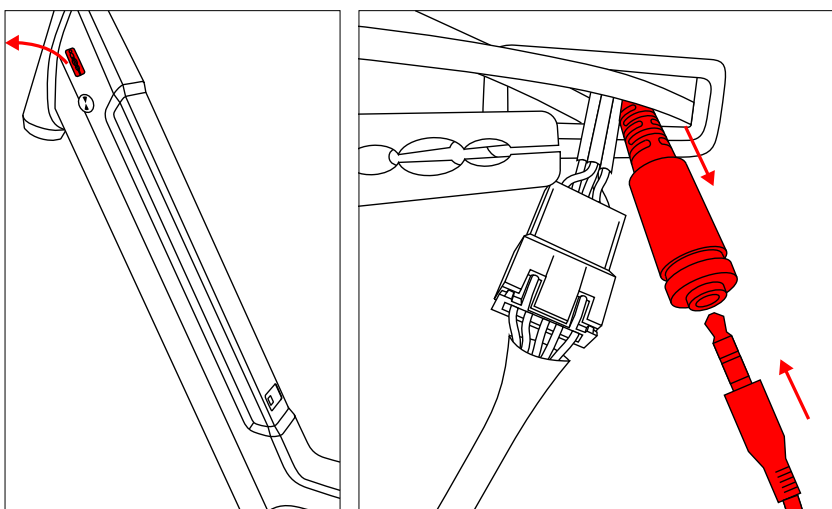
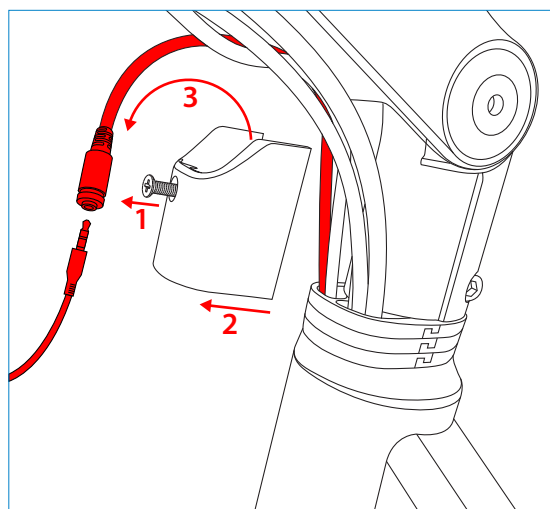

Figure 3.4a Connecting diagnostics to the fully integrated battery
Figure 3.4b Connecting diagnostics to the fully integrated battery
- 2 Remove the cover from the side of the bicycle (Fig. 3.4a) or headset cover (Fig. 3.4b) and remove the display extension cable.